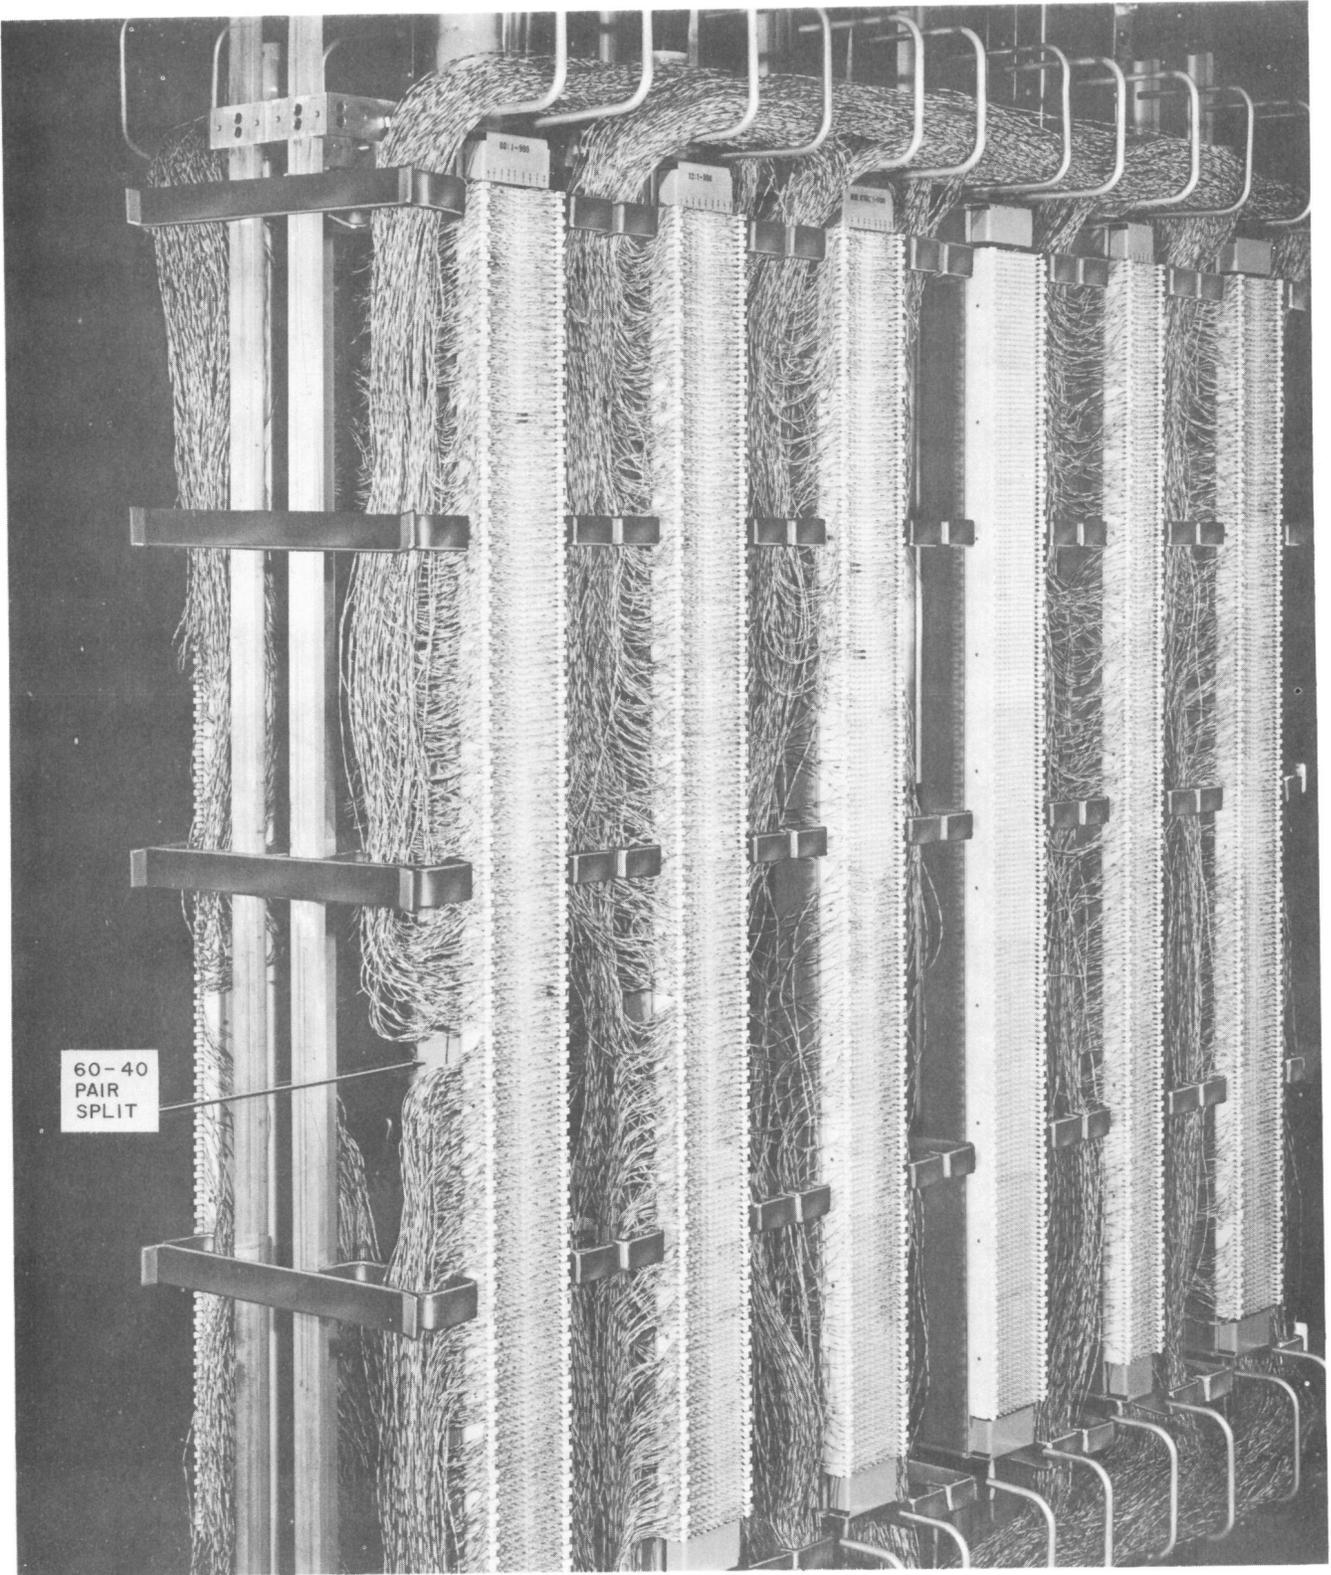

Fig. 3—Main Terminal Constructed With 5A Type Terminal Mounted on AT-8519B Cable Terminal Section
3.01 The 5A type terminals mounted on AT-8519 Cable Terminal Sections are illustrated in Fig. 3. The cross-connecting wires from the central